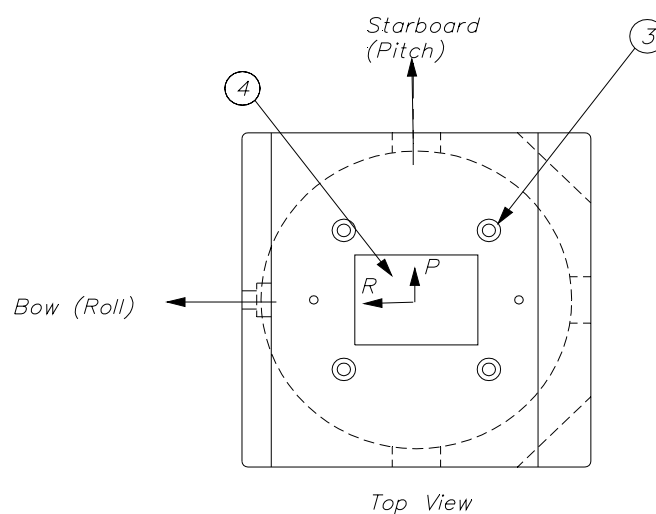

Figure 7 Sticker (4) shall indicate actual mounting orientation of MRU within bracket
4. Apply the sticker (4) onto the bracket according to the actual mounting direction of the MRU, as shown in Figure 7. In this way, the actual mounting direction is identified in case the unit is to be exchanged or removed temporarily.